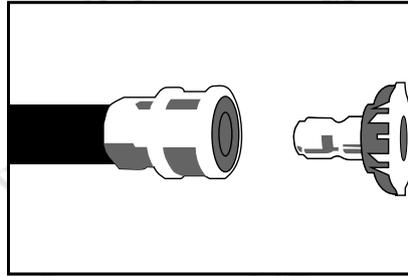

Fig.7
2. Attach the Detergent Nozzle (Blue/Black). This creates the correct back pressure to draw chemicals through **(fig.7)**